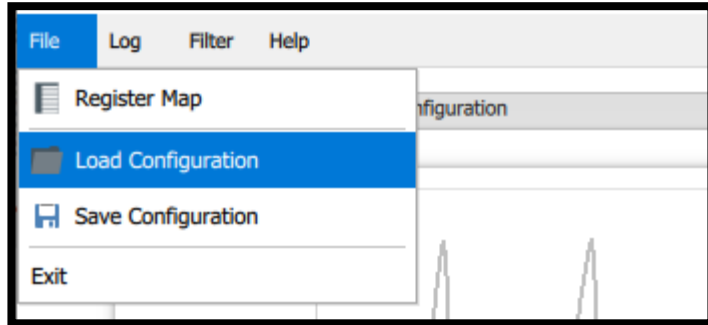

Fig. 22: Loading a Configuration File
- To load a configuration (.json file), click on the tab File → Load Configuration (Fig. 22). This will open the Select Configuration File dialog box. Select the '.json' configuration file you want to load, and click Open.